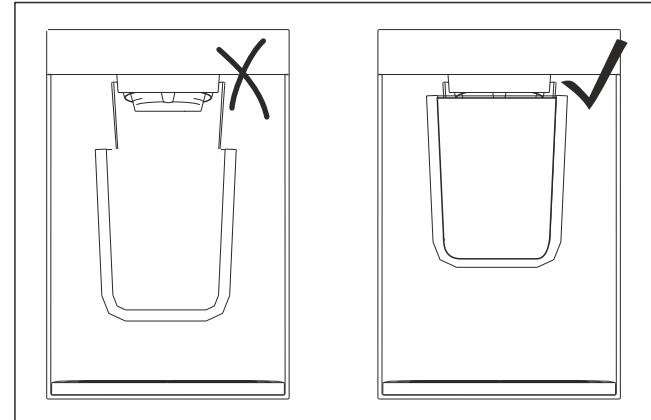

Fig. 103 Example illustration
- Hold the container as close as possible to the dispensing opening. (see Fig. 103)